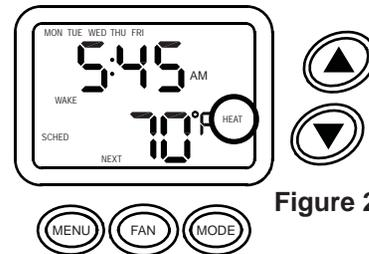

Figure 2
4. **PRESS** the FAN button to continue. Setpoint temperature and HEAT or COOL will appear on the display (Figure 2).